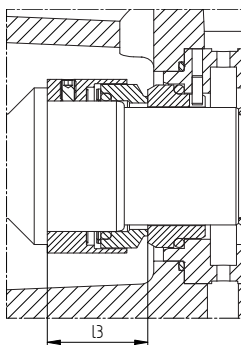

Figure 9: Length l_3 of compressed seal.
- 5 Install the ball bearing when it has the set temperature. **IMPORTANT: the thicker part of the bearing inner ring must point to the rear end of the shaft.** Push it firmly against the shaft shoulder. Let it cool down. Be sure that the ball bearings (2240) and inner ring (2350) are firmly positioned against the shaft shoulder. Verify the length of the compressed mechanical seal $l_3 = 1.516''$ [38.5 mm]. See figure 9.